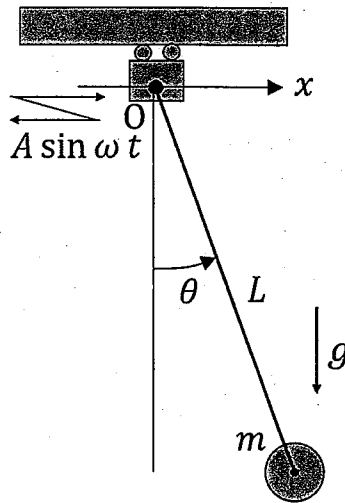
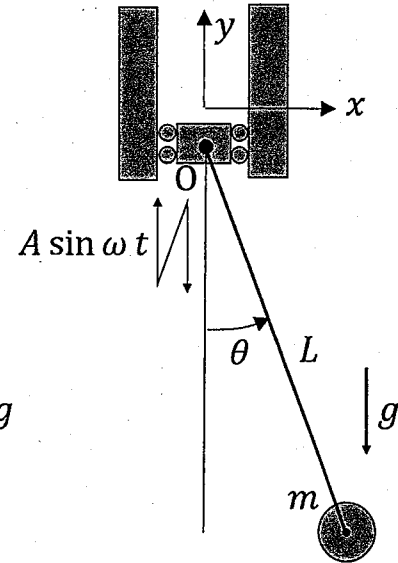

Figure 2-2
Figure 2-3
Consider the pendulum in Figure 2-2, where the pendulum is connected to the cart and a horizontal displacement of $A\sin\omega t$ is given to the supporting point O .
- (2) Derive the equation of motion for the pendulum in Figure 2-2 using A , g , L , t , θ and ω .
- (3) Derive the amplitude of the pendulum after a long time has passed.
Consider the pendulum in Figure 2-3, where the pendulum is connected to the cart and a vertical displacement of $A\sin\omega t$ is given to the supporting point O .
- (4) Derive the coordinates (x, y) of the point mass. Here, the origin point corresponds to the supporting point O , when $t=0$.
- (5) Derive the equation of motion for the pendulum in Figure 2-3 using A , g , L , t , θ and ω .
- (6) In the case that the pendulum vibrations grow, the mechanism of the growing process is different between Figure 2-2 and Figure 2-3. Explain the difference briefly.